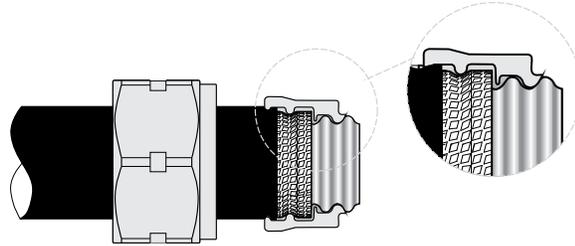

Figura 4-20
PASO 3 INSTALE LAS TUERCAS Y BUJES (FIGURA 4-20)